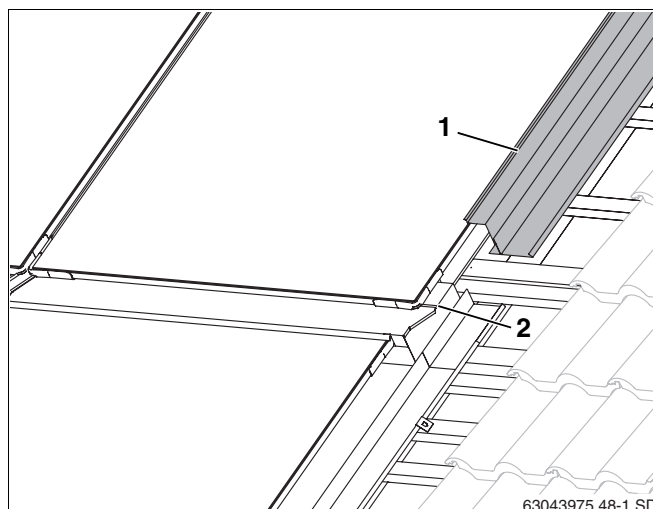

Fig. 53 Upper right facing panel
- ▶ Fit the upper side facing panels (Fig. 53, **Item 1**) in the same way as the lower ones (Chapter 10.2 "Side facing panels").
- ▶ Push the side facing panels over the collector fold in the middle panels (Fig. 53, **Item 2**).